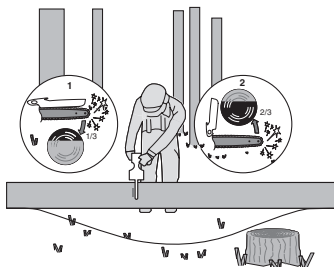

Figure 4
When the log is supported on both ends, as illustrated in Figure 4, cut 1/3 the diameter from the top (overbuck) (1). Then make the finished cut by underbucking (2) the lower 2/3 to meet the first cut.